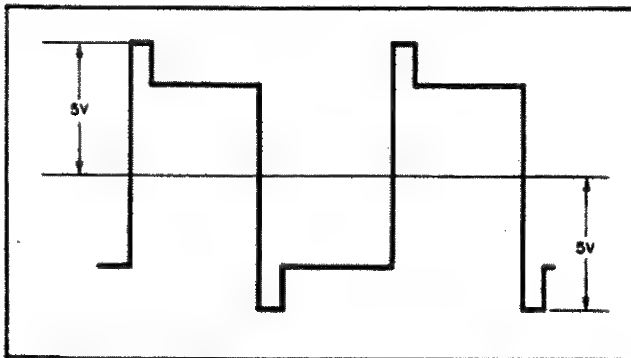

Figure 5-15. Overcurrent Protect Test Waveform
- d. Turn on BPS/A and observe waveforms (see Figure 5-15). Overshoot should not exceed 5V p-p.